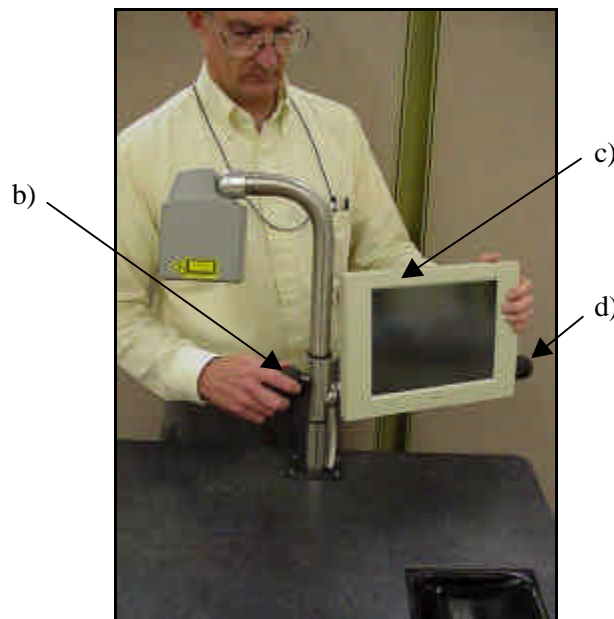

Figure 10: Rotating the support mast with monitor facing toward front of unit
- b) Twist the black knob next to the support mast one rotation to loosen the knob (**Figure 10**).